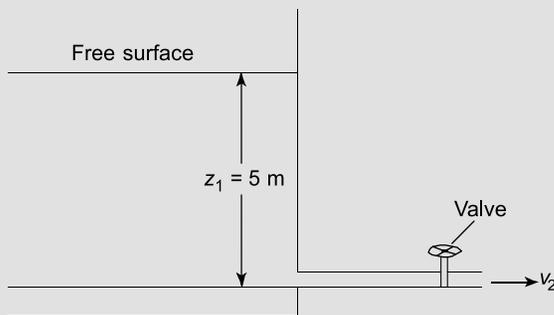

Figure 23.12
**Problem 2.** A storage tank contains oil whose free surface is 5 m above an outlet pipe, as shown in Figure 23.12. Determine the mass rate of flow at the exit of the outlet pipe, assuming that (a) losses at the pipe entry =  $0.4 v^2$ , and (b) losses at the valve =  $0.25 v^2$ .
1. If in the storage tank of worked Problem 2 on page 268, Figure 23.12,  $z_1 = 8$  m, determine the mass rate of flow from the outlet pipe.
2. If in the storage tank of worked Problem 2, page 268, Figure 23.12,  $z_1 = 10$  m, determine the mass rate of flow from the outlet pipe.